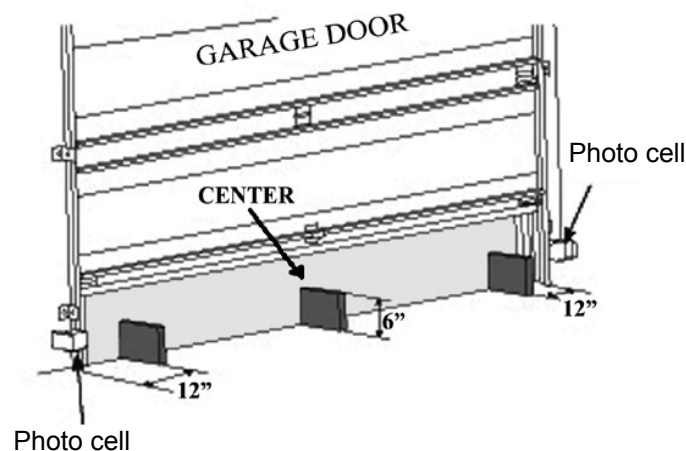

Figure 4 - Mounting of Photo Cells
4. Place a 6" X 12" (15.2cm x 30.4cm) object on the floor, as depicted in Figure 4. Test the obstruction in three different locations: 12" (30.4cm) in from both sides of the opening, and on the centerline of the opening. This test is an intentional obstruction of the photo cell system. It shall prevent an open door from closing, and cause a closing door to stop or stop and reverse. If needed, adjust the elevation of the photo cell units to ensure that the system performs as described.